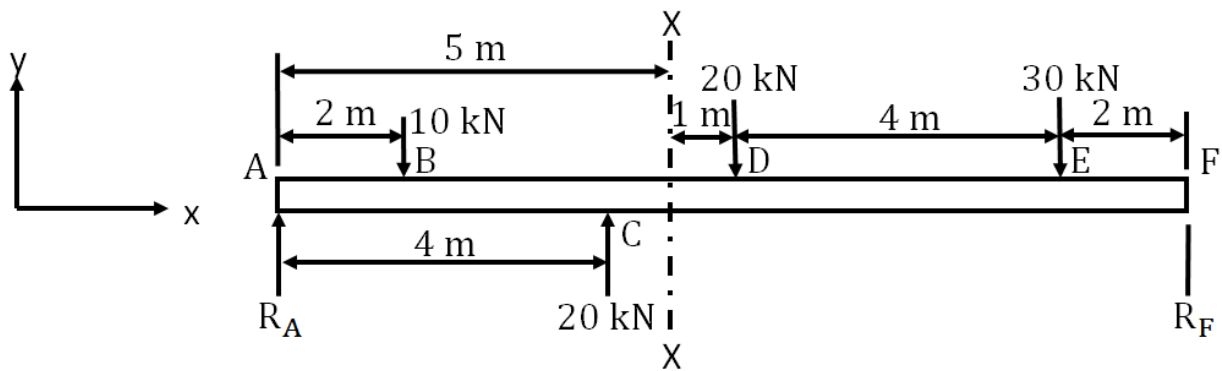

Fig. Q 4 (b)
- a. Construct the shearing force and bending moment diagrams for the beam shown in Fig. Q 4 (b). [13 marks]
- b. A timber joist 15 cm by 7.5 cm has reinforcing steel flange plates 1.25 cm thick as shown in Fig. Q 4 (a). The composite beam is 3 m long, simply-supported at each end and carries a uniformly distributed lateral load of 10 kN. Taking $\frac{E_s}{E_t} = 20$, Estimate: